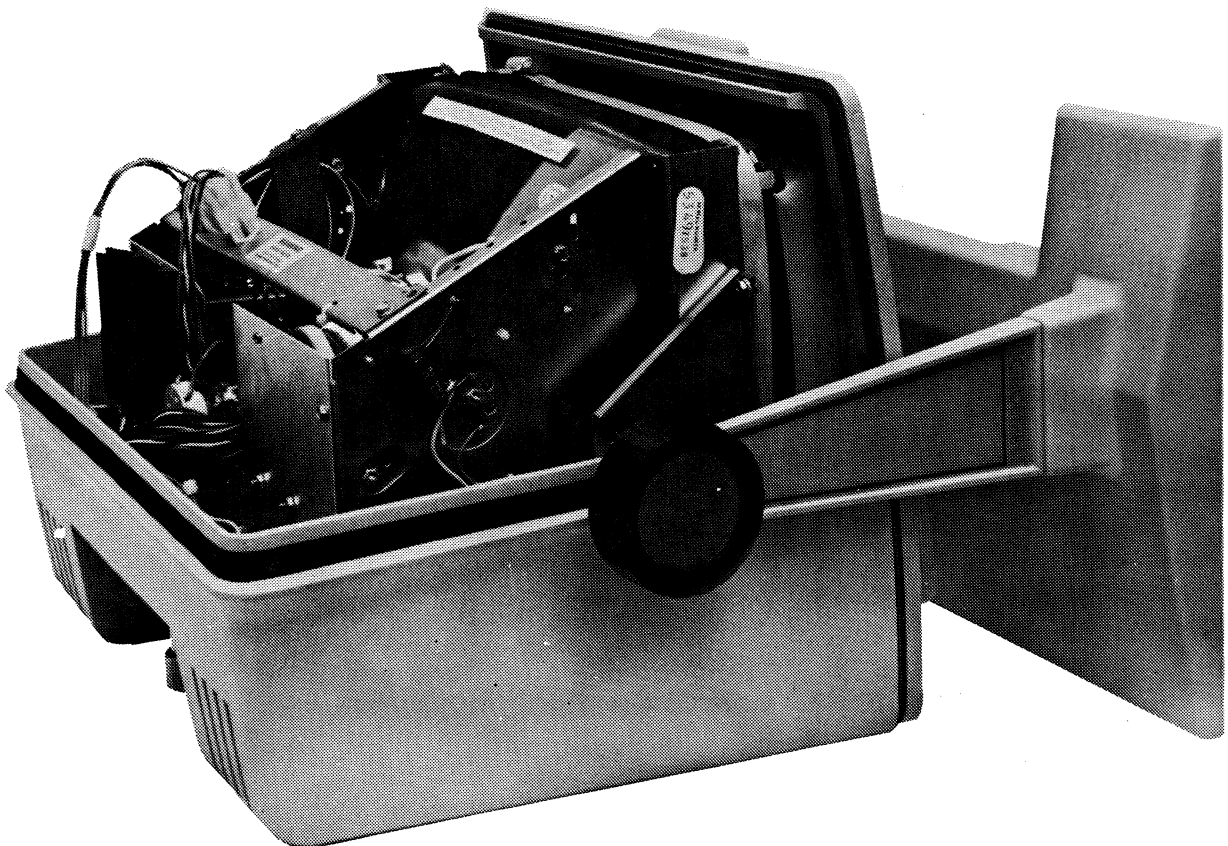

FIGURE 4-3. ADJUSTMENT KNOB AND STAND REMOVAL POSITION
6. Position the monitor and monitor stand as shown in Figure 4-3.